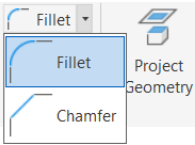
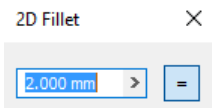
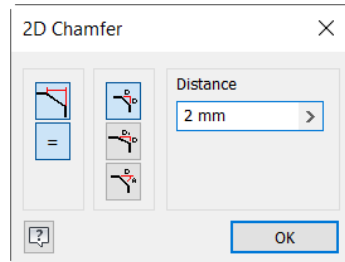

Figure 2-41 Tools in the **Fillet/Chamfer** drop-down
Figure 2-42 The **2D Fillet** dialog box
Figure 2-45 The **2D Chamfer** dialog box
**Fillet** Filleting is defined as the process of rounding the sharp corners of a sketch. This is done to reduce the stress concentration in the model and for smooth handling. Using the **Fillet** tool, you can round the corners of the sketch by creating an arc tangent to both the selected entities. The portions of the selected entities that comprise the sharp corners are trimmed when the fillet is created. When you invoke this tool from the **Fillet/Chamfer** drop-down, refer to Figure 2-41, the **2D Fillet** dialog box will be displayed with default fillet radius, as shown in Figure 2-42, and you will be prompted to select the lines or the arcs to be filleted. If you have already created some fillets, their radius values will be stored as preset values. You can select these preset values from the list that is displayed when you choose the arrow provided on the right of the edit box.
Chamfering is defined as the process of beveling the sharp corners of a sketch. This is the second method of reducing stress concentration. To chamfer sketched entities, choose the **Chamfer** tool from the **Create** panel (see Figure 2-41); the **2D Chamfer** dialog box will be displayed, as shown in Figure 2-45. Also, you will be prompted to select the lines to be chamfered. Select the lines; the chamfer will be created. The options in the **2D Chamfer** dialog box are discussed next.